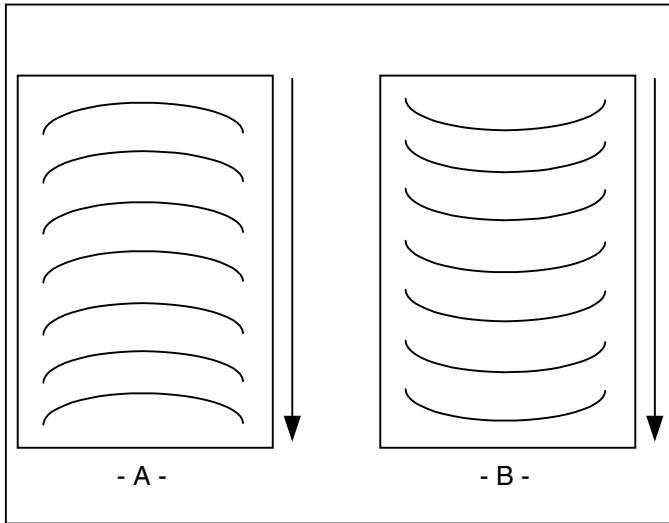

Fig. 45
1. "D" waves in the image (Figure 45 A).
2. "D" waves in the laminate (Figure 45 B).